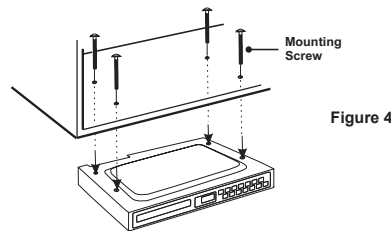

Figure 4
- b) Insert the four selected screws through each hole from the inside of the cabinet going down (see Figure 4).